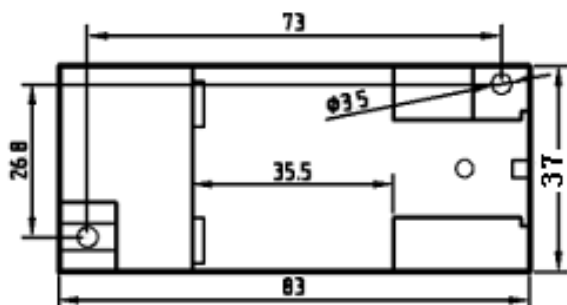

Figure 9, Mounting dimensions
- ① The transducer fixed on the side of the card slot and hook on the mounting rail;
- ② Pull the spring pin down;
- ③ Clip the transducer mount on the mounting rail;
- ④ Release the spring pin and clip the transmitter on the mounting rail.
- ① 4mm diameter hole in the fixed plate according to the position of the screw hole shown in Fig. 9;
- ② Use the screw Φ3.5 to insert into hole and secure it.